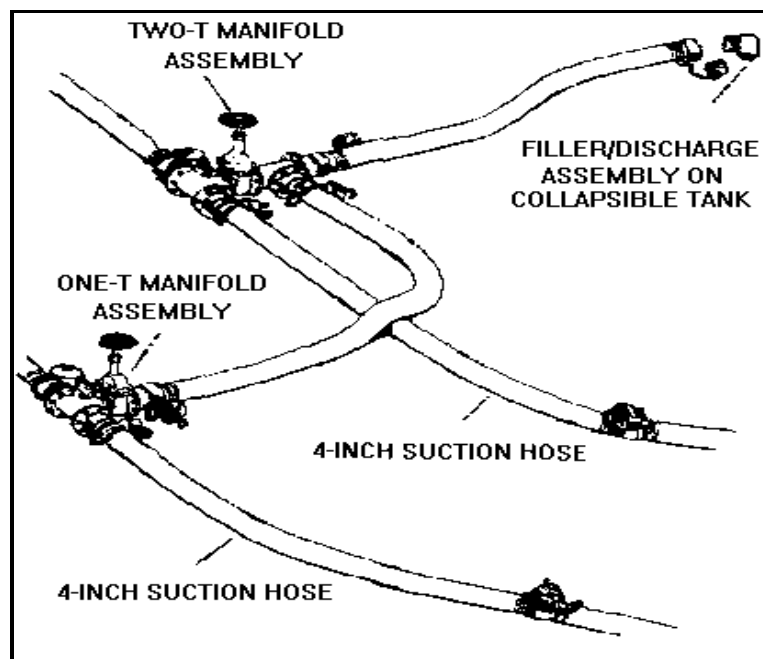

Figure 23-2. Manifold and hose assemblies
- The 10,000-gallon collapsible tanks. The FSSP normally has six 10,000-gallon collapsible tanks. One hoselines manifold assembly with two T-fittings and one assembly with one T-fitting are used with each tank. The manifold as shown in Figure 23-2, page 23-4, has two rising-stem, double-acting gate valves to control the flow of fuel into and out of the collapsible tank.